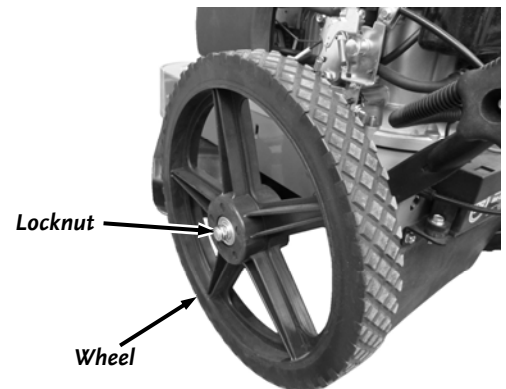

Figure 39
2. Loosen and remove the Locknut with the required Wrench (**Figure 39**).